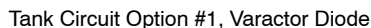

Figure 3. Typical Test Circuit with Alternate Tank Circuits
The tank circuit configuration presented in Figure 11, Voltage Controlled Varactor Mode, allows the VCO to be tuned across the full operating voltage of the power supply. Deriving from Figure 6, the tank capacitor, C, is replaced with a varactor diode whose capacitance changes with the voltage applied, thus changing the resonant frequency at which the VCO tank operates as shown in Figure 3, tank option #1. The capacitive component in Equation 1 also needs to include the input capacitance of the device and other circuit and parasitic elements.
When operating the oscillator in the voltage controlled mode with Tank Circuit #1 (Figure 3), it should be noted that the cathode of the varactor diode (D), pin 8 (for 8 lead package) or pin 10 (for 14 lead package) should be biased at least 1.4 V above V_{EE}.